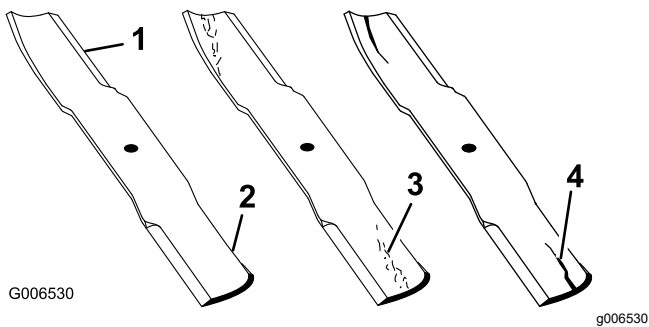

Figure 53
1. Inspect the cutting edges (Figure 53).
4. If you notice any cracks, wear, or a slot forming in this area, immediately install a new blade (Figure 53).